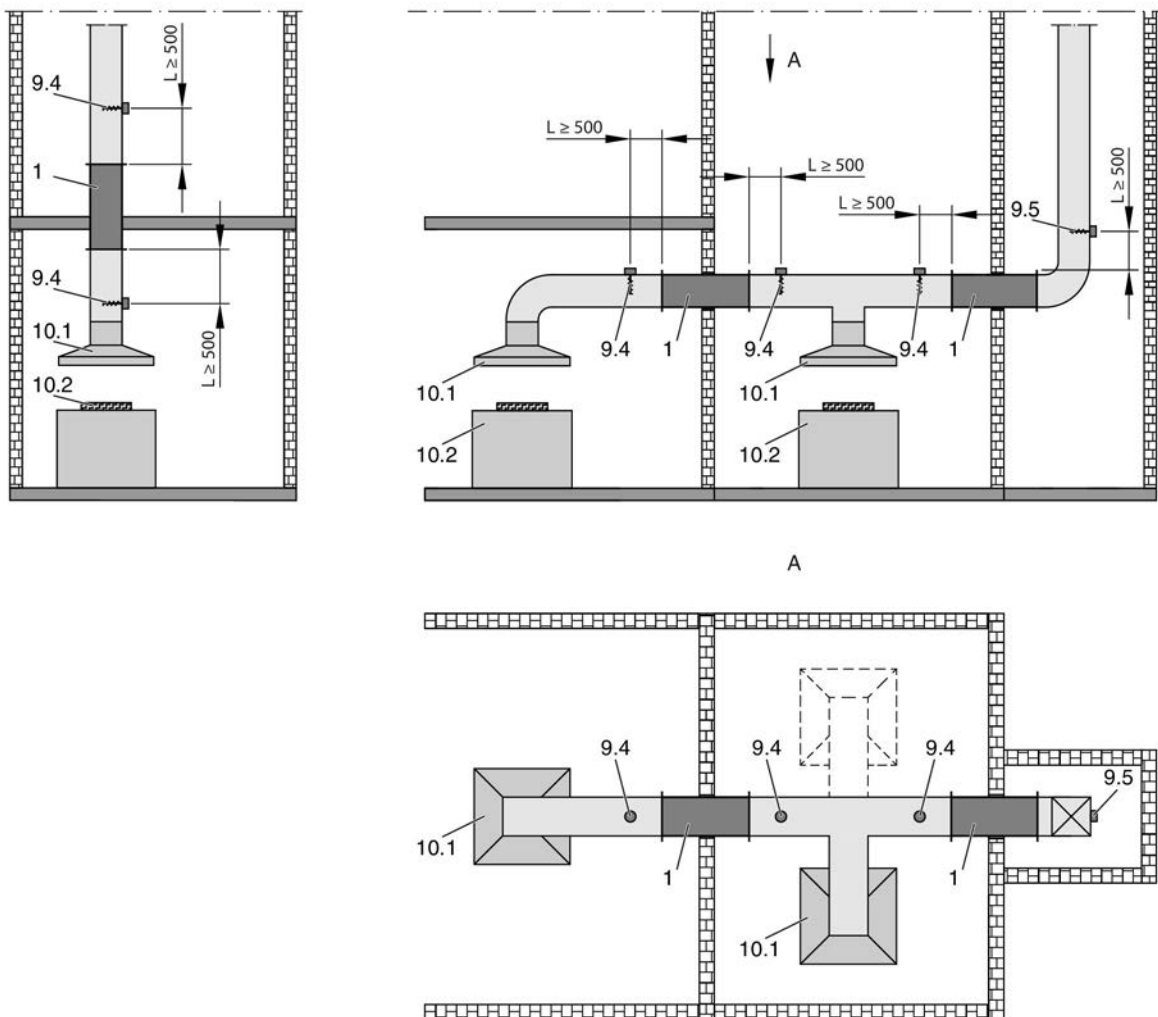

Fig. 24: More installation examples
- The KA-EU fire damper includes a capillary tube sensor. Additional capillary tube sensors (part no. M536KA0) may be required for some installation locations, see Fig. 24). Up to 10 capillary tube sensors can be connected in series.